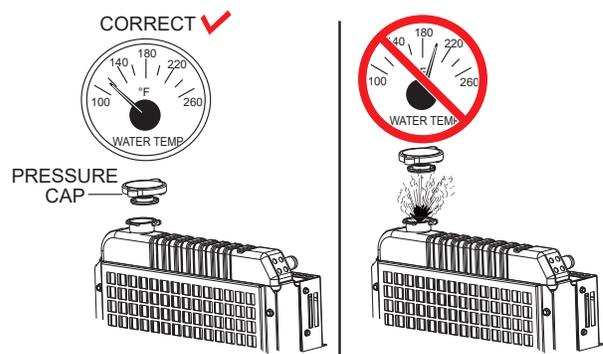

Figure 45. Radiator Pressure Cap Removal
- Remove the **radiator pressure cap** (Figure 45) only when the coolant temperature is below 120°F (50°C).